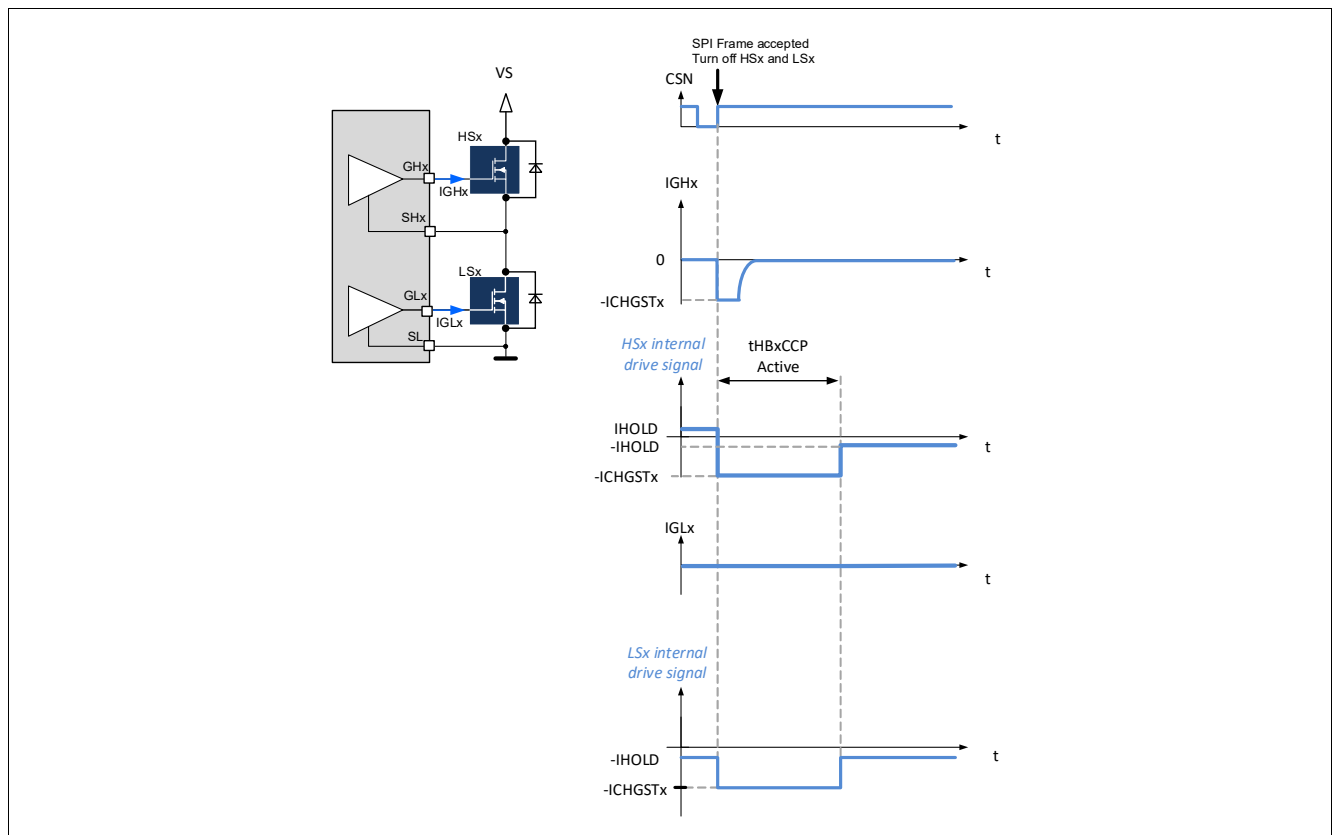

Figure 50 Turn-off of the high-side and low-side MOSFETs of a half-bridge
- The gate of HSx and LSx are discharged with the current $-ICHGSTx$ for the duration $t_{HBxCCP ACTIVE}$ (Figure 50).